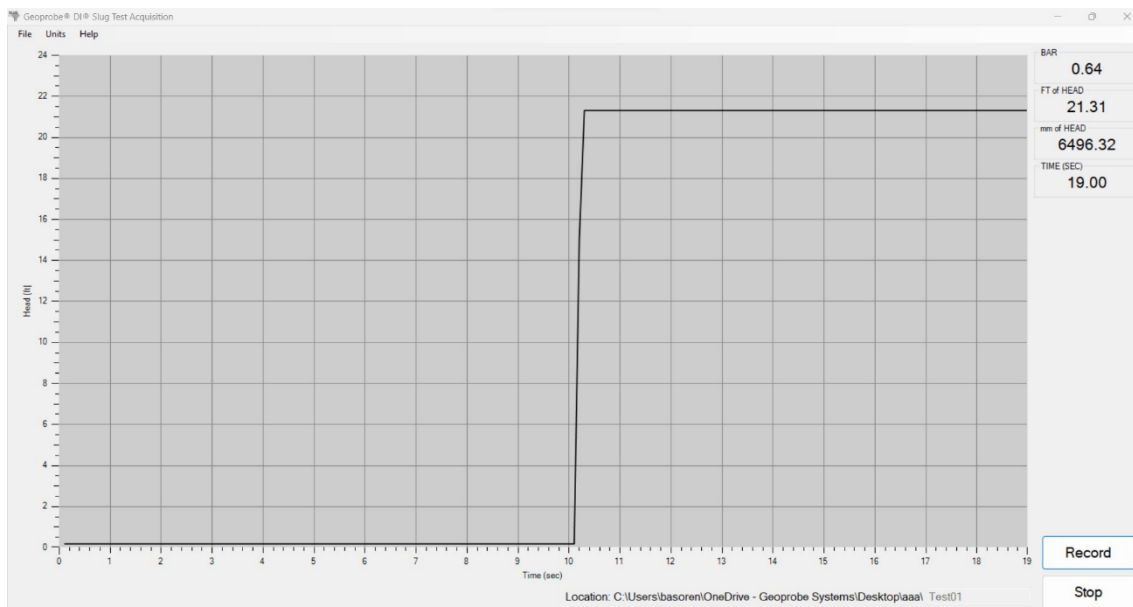

Figure 5: Simulated readout of slug test software with test load installed.
7. With the test load connected to the acquisition module and the software running, a head reading of 21 feet ($\pm 15\%$) should be noted on the graph and at the "FT of HEAD" box as shown in Figure 5. If the output is not within this range (18 - 24 ft.), check all cable connections and repeat Steps 3-6 of the test procedure. If the output is still not within the specified range, contact Geoprobe Systems® for further instructions.